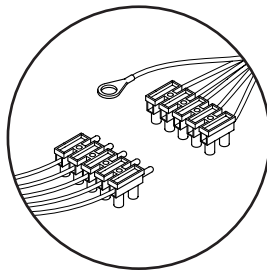

Fig. 92
8. Release the 5-pin electrical plug connecting the pressure switch and fan (Fig. 92). Withdraw the fan assembly by pulling forwards from the top edge (Fig. 93).